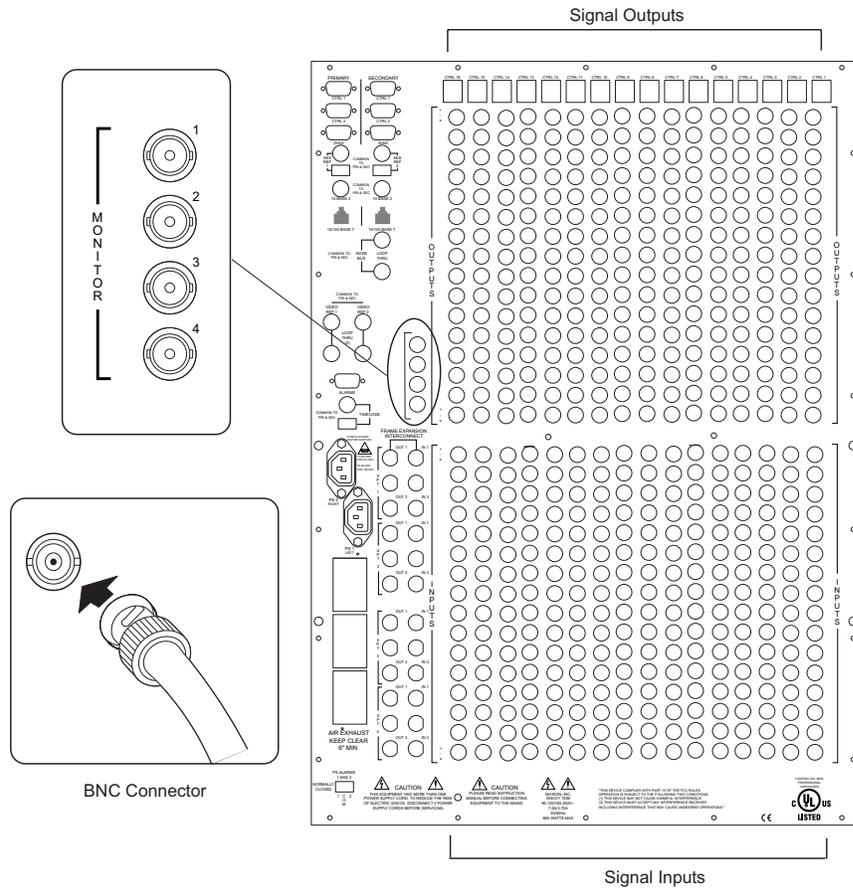

Figure 3-27. Example of Monitor Connections and BNC Connectors on NV7256 (Rear View)
- 1 Locate the monitor connections on the rear of the router, as shown in Figure 3-27. Monitor connections are labeled, '1', '2', '3' and '4'.